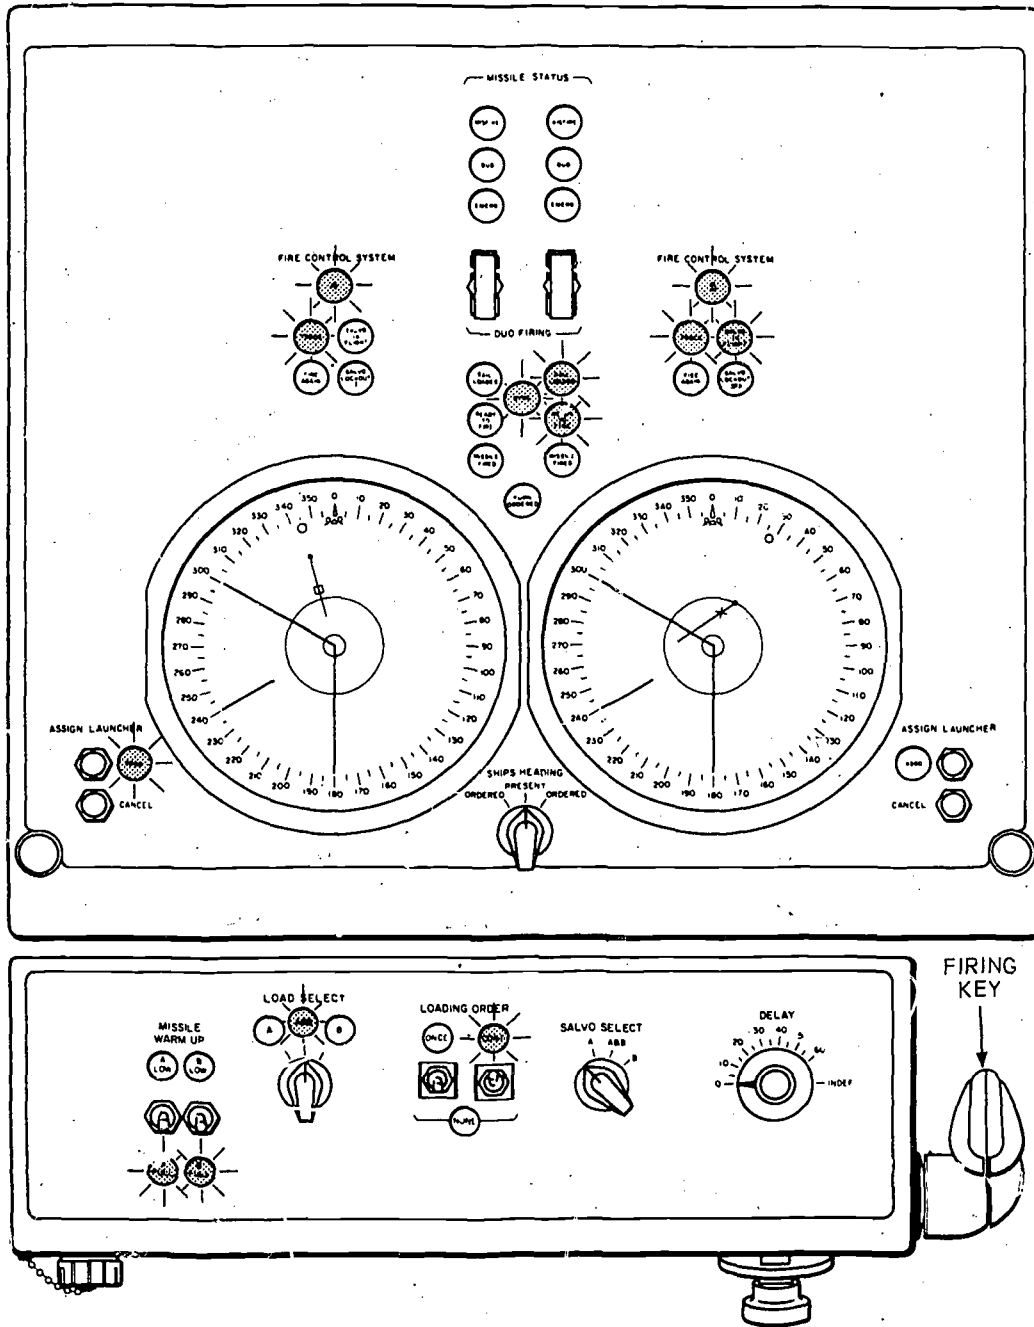
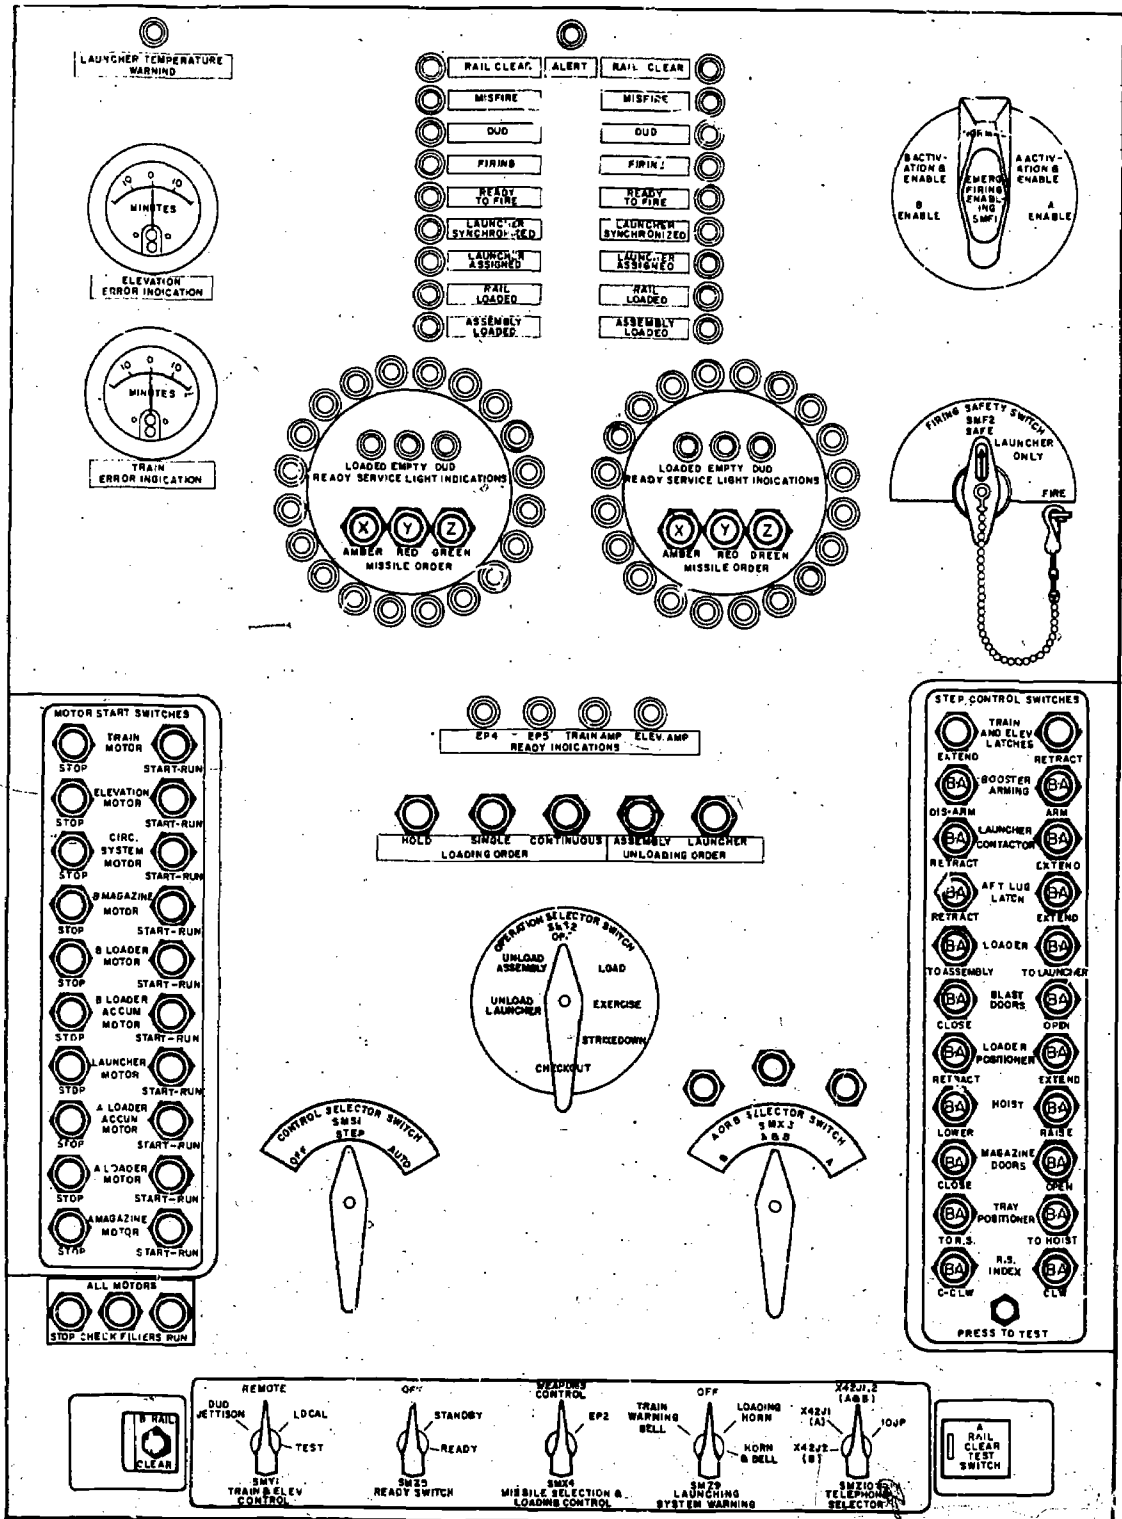

Figure 9-8.—Panel face of Weapons Assignment Console (WAC).
Figure 9-10.—Launcher captain's panel (EP2), Mk 190 Mod 1.
**Weapons Assignment Console (WAC).**—Each of the PPI displays on the Weapons Assignment Console (WAC) presents target position information from a fire control system assigned to track a target. The PPI-scope on the left in figure 9-8 shows the target being tracked by radar set and director 4; the indicator on the right shows information about the target being tracked by system No. 5. A summary of conditions at the launching system also appears on the console. The last step in the evaluation process takes place at the WAC. The WAC operator makes a
To assign the launcher to one of the fire control systems, the operator of the console presses the appropriate pushbutton marked "ASSIGN LAUNCHER" (fig. 9-8). If the launcher is prepared for remote operation, it automatically synchronizes with the train and elevation orders transmitted from the assigned missile fire control computer. As soon as the launcher is synchronized with the order signals, the light labeled "SYNC" comes on.
Two columns of lamps at the center of the WAC, just above the two display scopes (fig. 9-8), indicate missile status for the A and B rails of the launcher. These lamps are lighted by events that happen at the launcher. For instance, the RAIL LOADED lamp comes on when a missile is on the associated launcher rail. The SYNC lamp lights when the launcher is synchronized with the launcher train and elevation orders
The missile status information described above is also displayed on the Launcher Captain's panel (EP2). See figure 9-10.
Now let's shift our attention to the group of five lamps that are above each PPI (fig. 9-8). The group on the left is associated with FCS 4 and the group on the right with FCS 5. When the director receives an assignment, the lamp at the top of the group lights. The **TRACK** lamp lights when the director starts to track an assigned target. The **SALVO IN FLIGHT** lamp is lighted during the time interval between launch and target intercept. When the DAC operator orders another salvo fired at the same target, the **FIRE AGAIN** lamp flashes. When two salvos have been fired at a target, the **SALVO LOCKOUT 3RD** lamp lights, which indicates that the director is not available for another assignment until the salvos already in flight have reached their target. The fire control systems can control a maximum of four missiles (two 2-missile salvos). Therefore,
At the lower left-hand corner of the main panel (fig. 9-8) are two pushbuttons and one lamp. The **ASSIGN LAUNCHER** pushbutton is used to assign the launcher to FCS 4. The **ASSIGN (ASGD)** lamp, alongside the pushbutton, lights to indicate that connection has been made between fire control system and the launcher. Also, on the EP2 panel (fig. 9-10) in the launching system, the **LAUNCHER ASSIGNED** lamp lights. As soon as two missiles have been fired and the firing key is released, assignment of the launcher to the fire control system is canceled automatically. When only one missile is fired in the first salvo, launcher assignment is not canceled. If the WAC operator decides not to fire at a target after the launcher has been assigned, he may break the assignment by manually pressing the **CANCEL** pushbutton. When the assignment is canceled, the **ASGD** lamp goes out and so does the corresponding lamp on the EP2 panel.
The rectangular shaped panel at the bottom of the main display panel (fig. 9-8) is called the control-indicator auxiliary. It contains switches that send orders to the launching system concerning missile handling and firing. With the exception of the **DELAY** knob, you are familiar with all the functions in the launching system that are ordered by the controls on this panel.
The position of the **LOAD SELECT** switch indicates to the launching system personnel which launcher rails are to be loaded. You can see in figure 9-8 that the order is to load both A and B arms of the launcher. The **LOAD A & B** light just above the load select switch is burning, and this indicates that the launcher captain has acknowledged the order.
The SALVO SELECT switch selects the rail or rails from which a missile is to be fired. When the switch is put in the position shown in figure 9-8, the missile officer wants a single missile fired at the target. He does not particularly care whether it leaves the A or the B rail. But he wants to make sure that one of them goes. If the A rail missile is ready first, and it normally is, that's fine. But if you get a NO-GO on the missile intended for rail A, then you load rail B. The salvo select switch (fig. 9-8) is positioned so a missile can be launched from the A arm only, the B arm only, or from the A and B arms (in succession, not simultaneously).
WAC. Figure 9-8 shows that both fire control systems have been assigned a target. The lamp remains lighted until the assignment is canceled. The operator can tell if the fire control radar is automatically tracking the designated target because the TRACK lamp lights.
**GUIDANCE TRANSMITTER.**—The guidance transmitter also generates a cone shaped beam (fig. 9-10) but it is much smaller than the capture beam. The small guidance beam enables the missile to fly a tighter course to the target. The large capture beam ensures that the radar set grabs the missile. Once the radar set has the missile in its electromagnetic grip, the missile puts itself into the small guidance beam and follows this beam to the target. The track, capture,